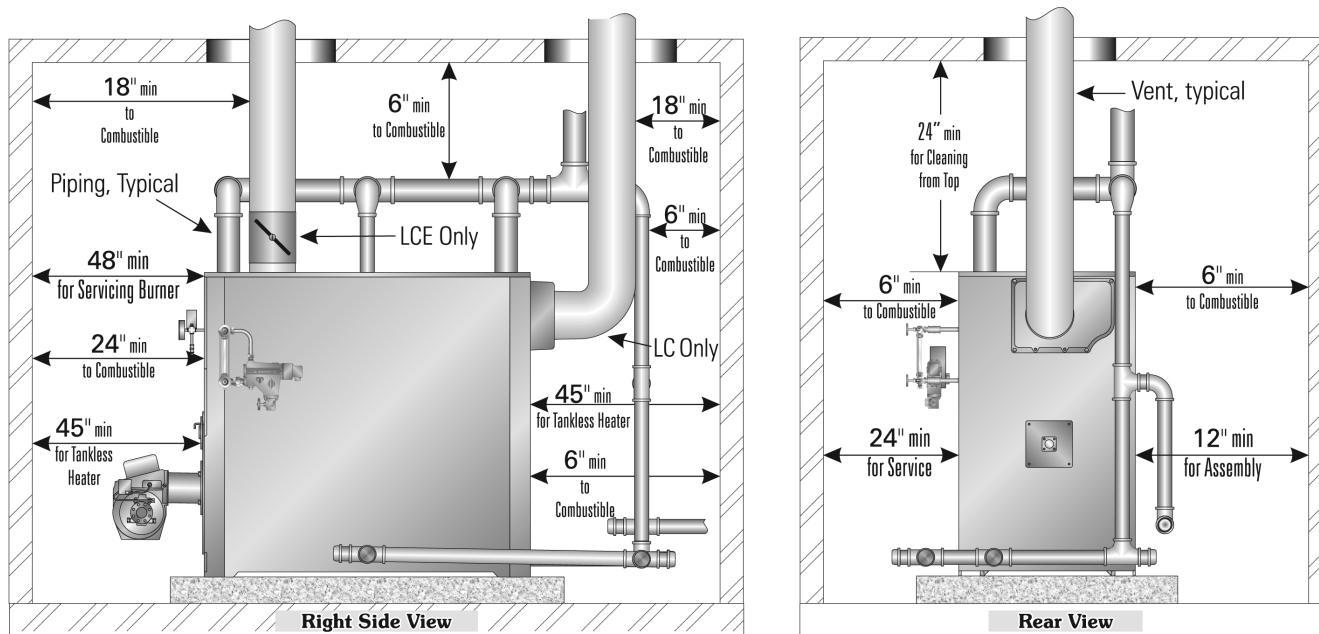

Figure 1.1: Clearance Requirements
1. Clearances for service and from combustible surfaces are the same for the LCE as for the LC. The following recommendations allow for *reasonable access to the boiler*. Follow local codes and requirements when setting actual layout. See Figure 1.1.
Provide the following *minimum clearances to combustible construction*. See Figure 1.1.